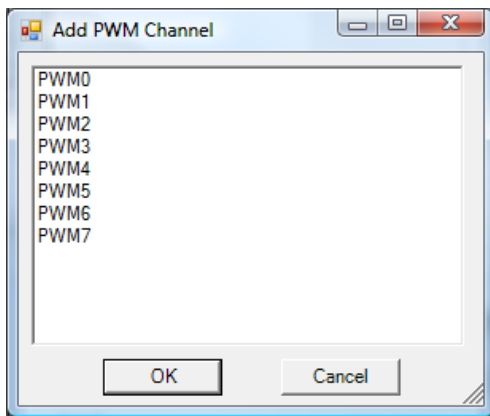

Figure 2.10 - ADD PWM Window
6. In the ADD PWM dialog, select the channels to install. To select multiple PWM channels, hold the CTRL key while clicking on the channel. Refer to Figure 2.10. Only available channels will be listed to be installed.